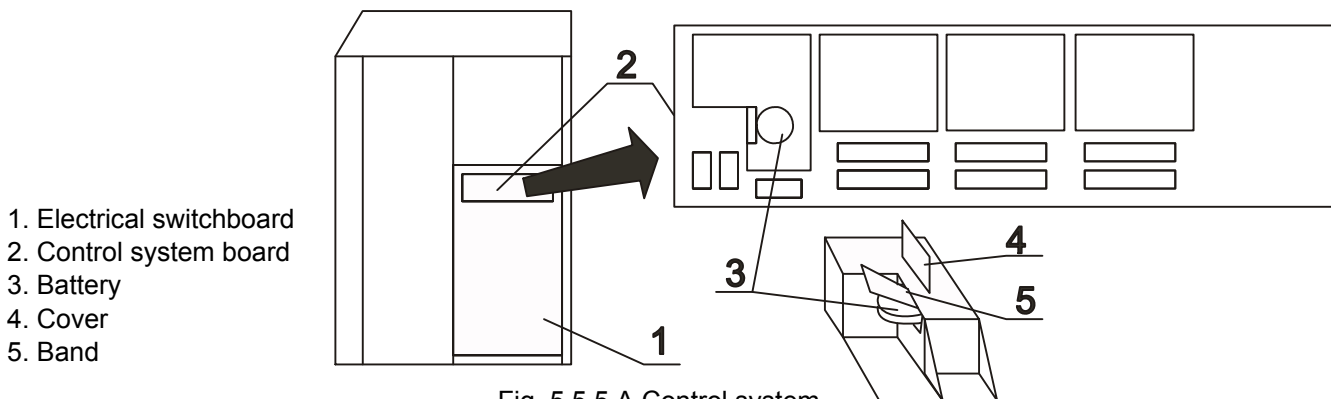

Fig. 5.5.5.A Control system
The control system, fig. 5.5.5.A is located in the electric switchboard (1), installed in the right side machine stand. Data securing is performed by: 1 pc of a lithium battery, 3 V / 950 mAh.